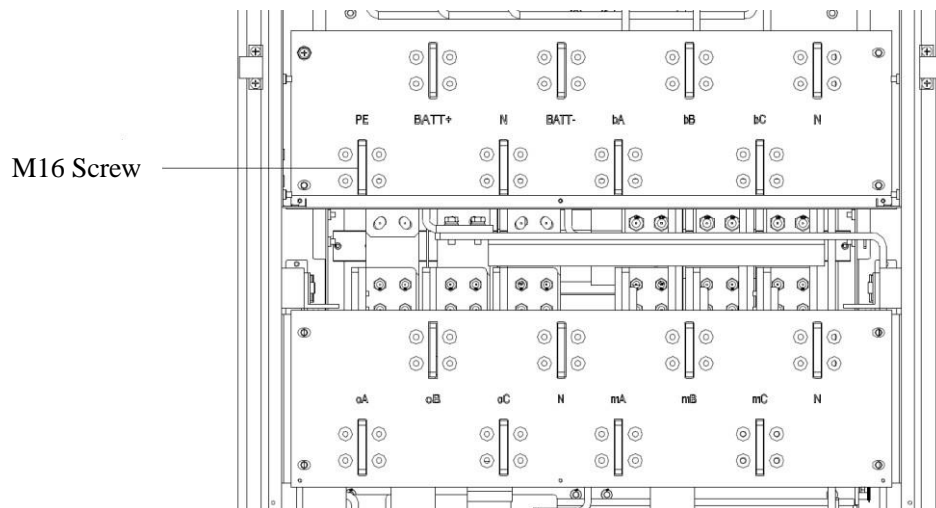

Figure 3-12 Connections terminals
Step 2: Open the front door of the cabinet (10-slot Cabinet opens the back door), remove the plastic cover. The input and output terminal, battery terminal and protective earth terminal are shown in Figure 3-12: